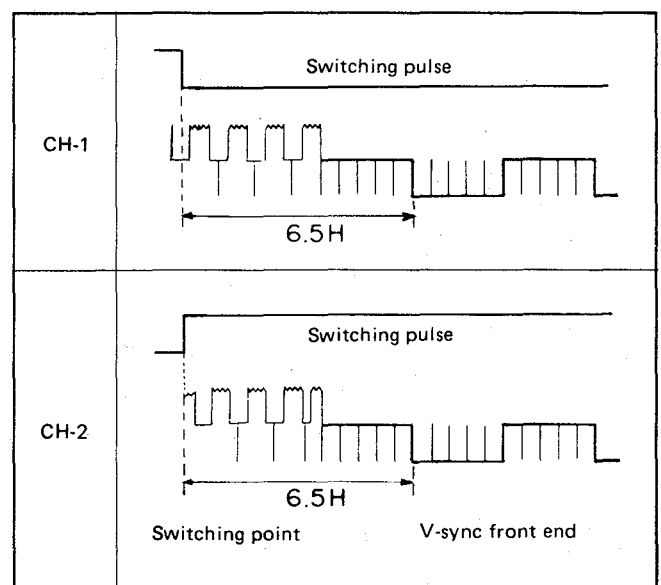

Figure 67.
1. Triggering the output signal with switching pulse, observe the waveform of output at the video output terminal. Adjust so that the distance from the switching point to the V-sync front end becomes $6.5H \pm 0.5H$. Carry it out for both channels (CH1 and CH2). See Fig. 67.